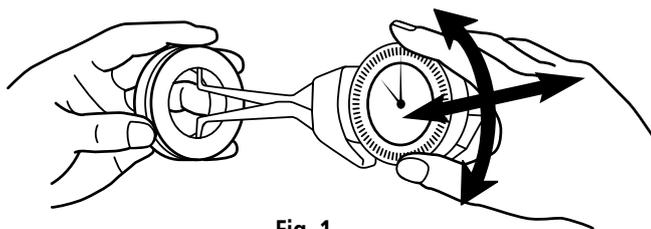

Fig. 1
3. Using a reference standard (setting ring, micrometer, master gage, etc.) adjust the initial setting by reading the minimum value indicated by the dial pointer while moving the measuring arm in up/down, right/left directions. **(Fig. 1)**